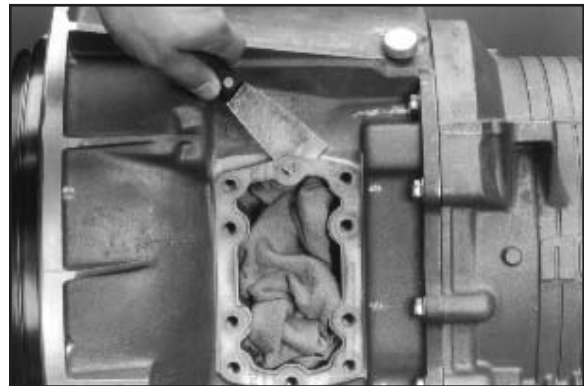

Fig. 7
7. Remove the gasket and clean the aperture surface (**Fig. 7**).